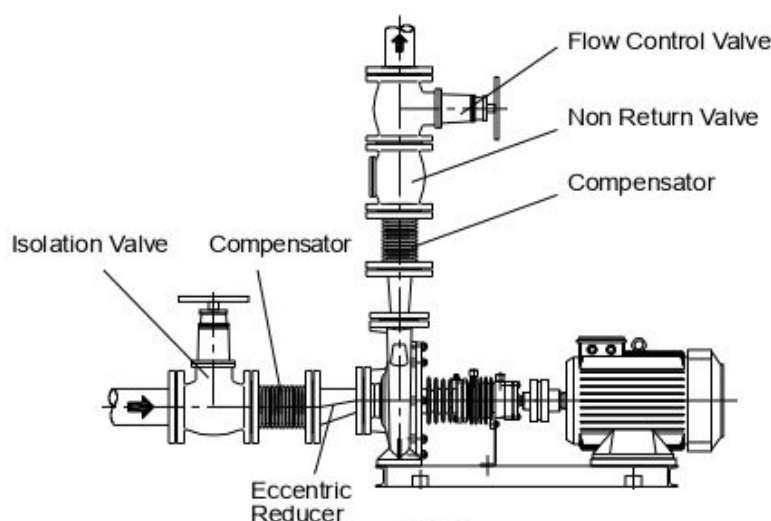

Fig. 5
- Thermal expansions of the pipework and excessive vibrations should be accommodated by suitable means so as not to impose any extra load on the pump **Fig. 5**.
- The suction piping must not present any features likely to promote the formation of air pockets. Therefore the suction piping should have a slight downward slope towards the pump (**Fig. 5**).
- An isolating valve should be installed in the suction pipe as close to the pump as possible. This valve should always remain fully open while the pump is running and must not be used to regulate the flow (**Fig. 5**).